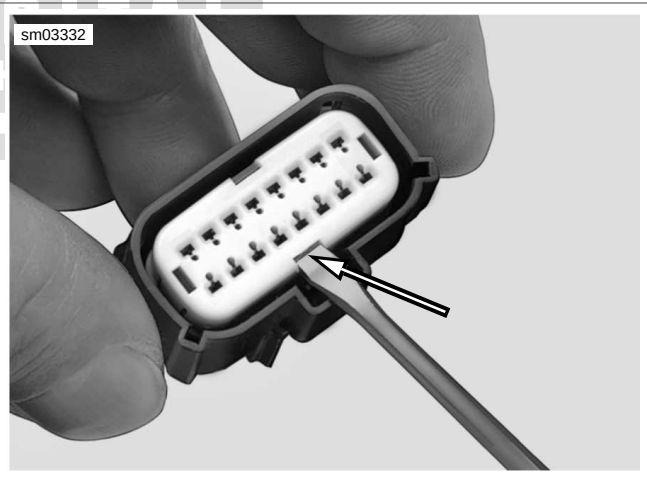

Figure A-44. Secondary Lock Pry Slot (Socket Housing)
- a. **Socket Housing:** See Figure A-44. Use a small screwdriver in the pry slot. The slot next to the external latch provides a pivot point.